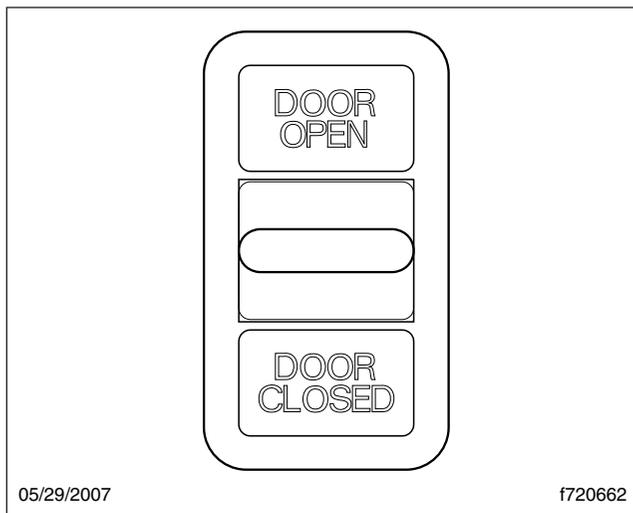

Fig. 2.3, Door Open/Door Closed Paddle Switch
3. To close the door, move the paddle switch on the driver control panel to the DOOR CLOSED position. See Fig. 2.3.
4. To close the door, move the paddle switch on the driver control panel to the DOOR CLOSED position. See Fig. 2.3.